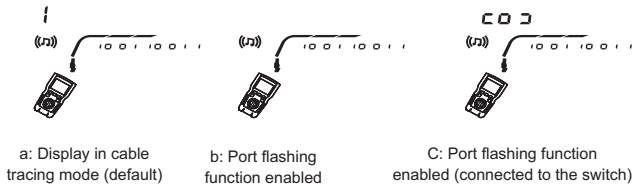

Figure 8.1 Displays in cable tracing mode
- (1) Start the Tester, and select the cable tracing mode "SCAN" through the mode selection knob. Under the cable tracing mode, the Fester will display by default as shown in Figure 8.1 (a).
- (2) Port flashing function enabled: In cable tracing mode, briefly pressing the button can enable/disable the port flashing function. After enabling the port flashing function, the Tester displays as shown in Figure 8.1 (b).
- (3) If connected to a working switch, the Tester will flash **C O O** along with the light at the switch port, as shown in Figure 8.1 (c).